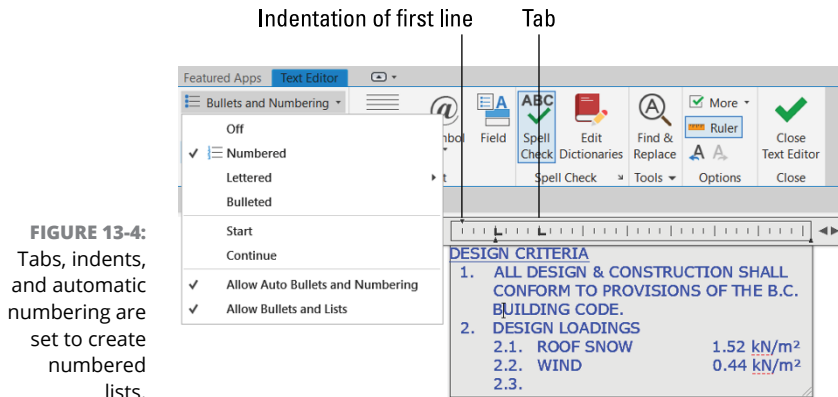

FIGURE 13-4: Tabs, indents, and automatic numbering are set to create numbered lists.
The mText command supports bulleted and numbered lists. This feature is especially useful for creating general drawing notes, as shown in Figure 13-4.
3. **On the Paragraph panel of the Text Editor tab, click the Bullets and Numbering drop-down button; verify that Allow Auto-List, Use Tab Delimiter Only, and Allow Bullets and Lists are selected; then click Numbered, as shown in Figure 13-4.**
To create nested numbered or bulleted items (as shown in Figure 13-4), simply press Tab at the start of the line. If you change your mind, you can bump up a nested text item up one level by selecting the item in the In-Place Text Editor and pressing Shift+Tab.